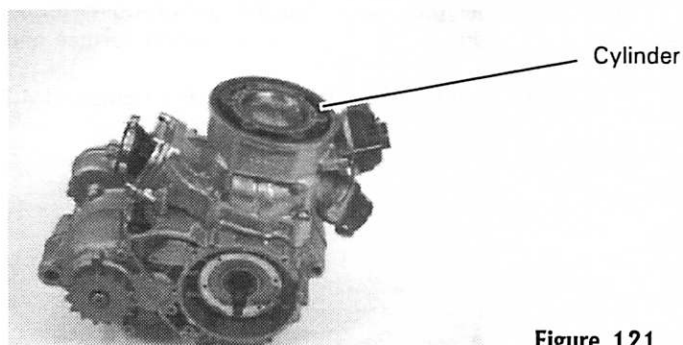

Figure 121
5. Compress the piston ring and slide the cylinder (Figure 121) over the ring and piston.